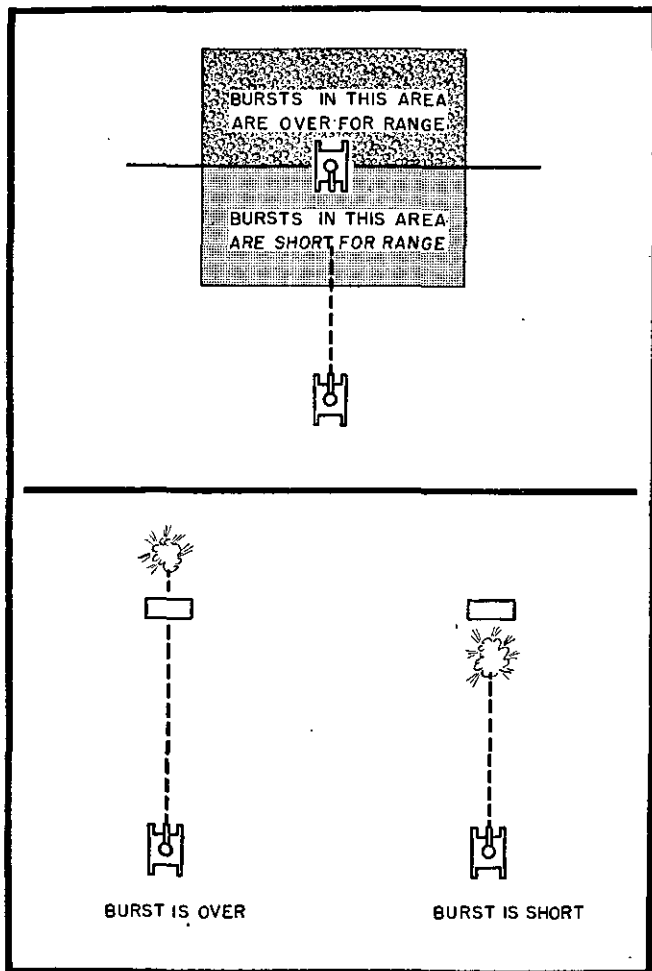

FIGURE 23.—Overs and shorts.
c. Sensings.—(1) An observer bases his sensings on what he sees while the burst is before his eyes, and not on his recollections.
(2) If the target is clearly defined against the burst, the range is "over." If the target is obscured by the burst, the range is "short" (fig. 23).
(3) If the target is obscured and then immediately silhouetted by smoke or dust, or vice versa, the range is nearly that of the target.
(4) Make sensings promptly except when you must wait in order to see whether the smoke drifts "short" or "over."
(5) When sensing on the drifting smoke from a burst of HE shell, consider whether the direction of the wind is such as to give a false or true sensing.